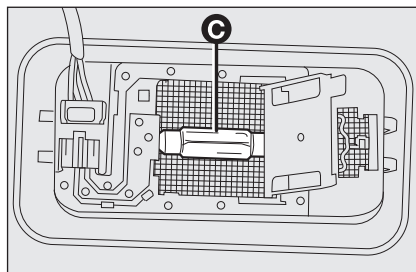

fig. 27
- ☐ replace bulb **C**-fig. 27 releasing it from the side contacts, then insert the new bulb making sure it is correctly clamped between the contacts;